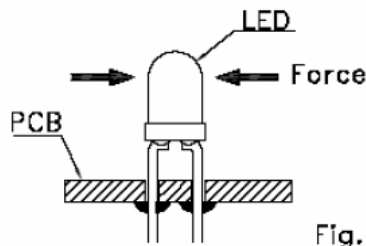

Fig. 9
- After soldering or other high-temperature assembly, allow the led to cool down to 50°C before applying outside force (Fig.9). In general, avoid placing excess force on the LED to avoid damage.